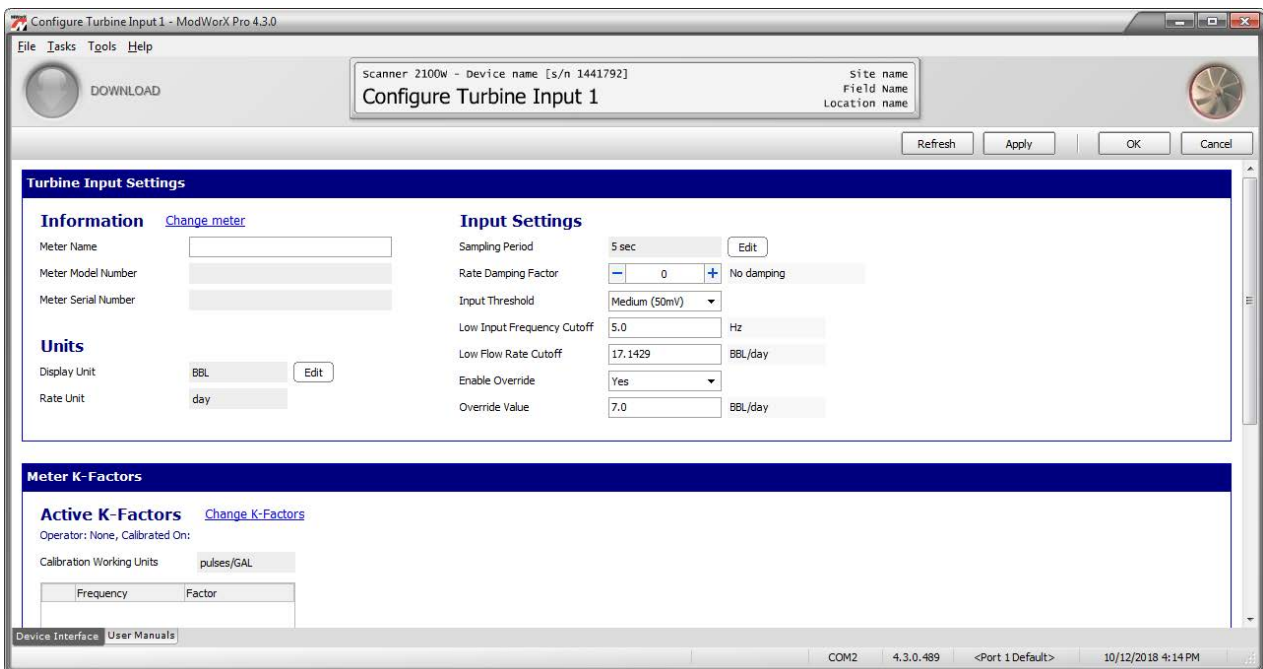

Figure 5.3
The Configure Turbine Input screen will appear (Figure 5.3).
1. Enter turbine input settings (Figure 5.3, page 63).